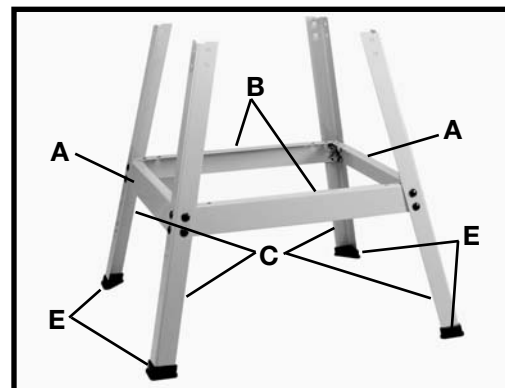

Fig. 7
1. Attach the four rubber feet (E) Fig. 7 to the bottom of each leg (C).
2. Attach the two lower braces (A) Fig. 7, and the two lower braces (B) to the four legs (C), using the sixteen 5/8" carriage bolts, flat washers and hex nuts (D). **NOTE:** Only tighten hex nuts finger tight at this point.